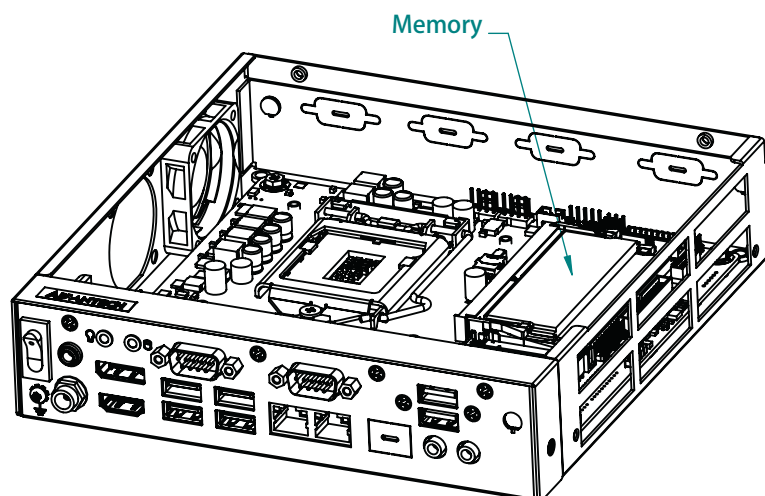

Figure 2.3 Installing & Changing the memory/ 安裝和更換內存 / 安裝和更換記憶體
- Figure 2.3 Installing & Changing the memory/安裝和更換內存/安